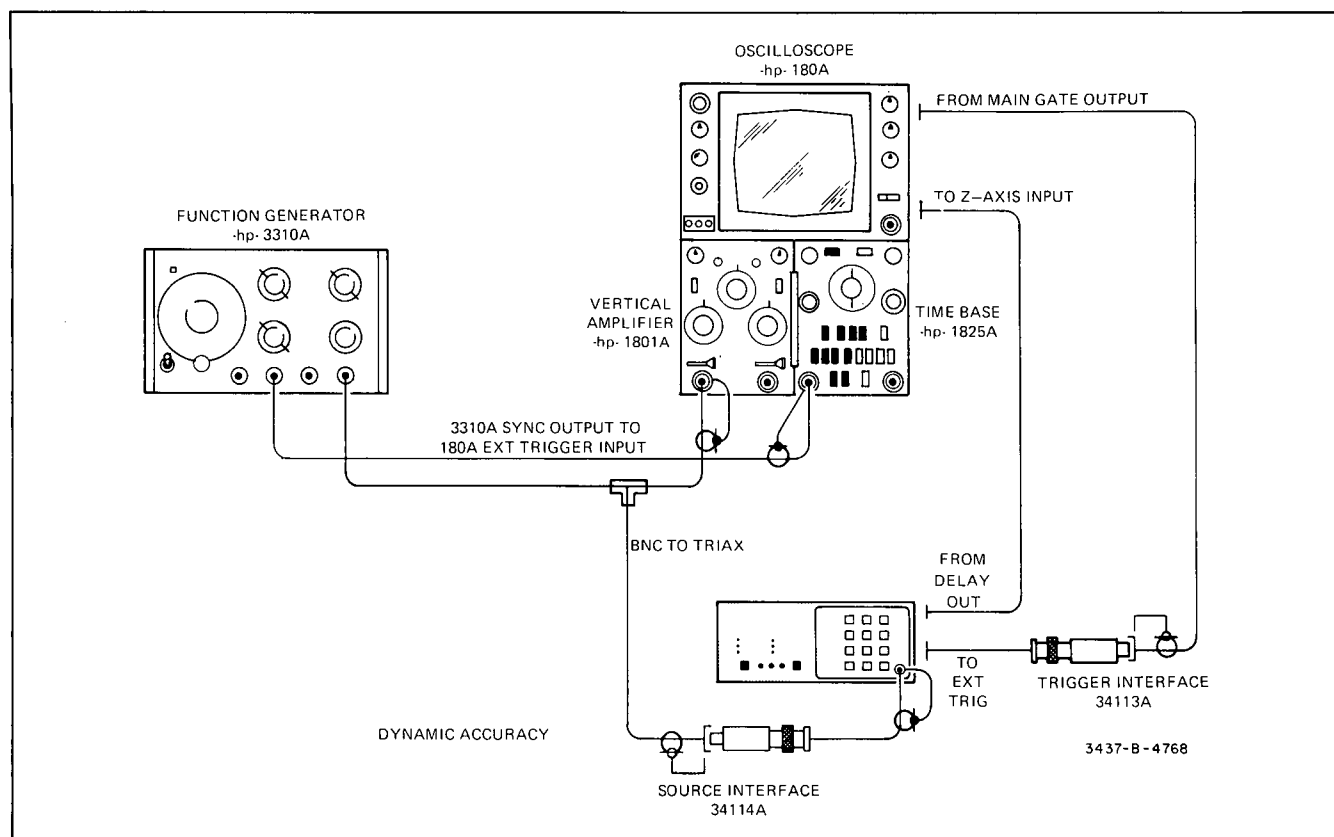

Figure 5-2. Dynamic Accuracy Test Set-Up.
a. Connect the equipment as illustrated in Figure 5-2.